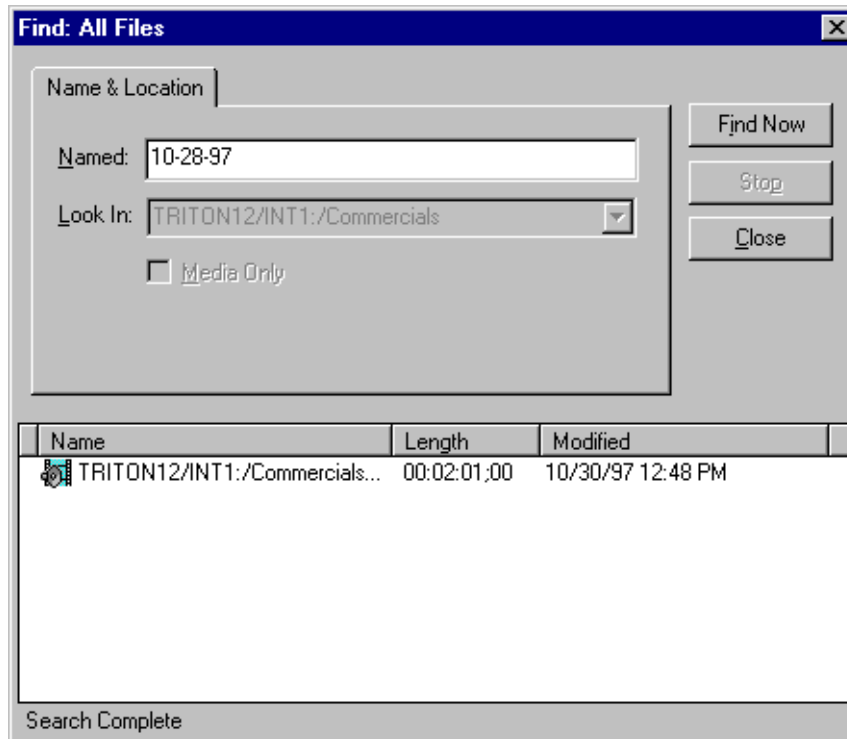

Figure 56. Find dialog box
2. Choose **Find** on the **Edit** menu or from the shortcut menu with a right-click. The Find dialog box appears (see Figure 56).
4. Click **Find Now**. Click **Stop** to abort the search. When a match is found, the result is displayed in the box at the bottom of the **Find** dialog box, as shown in Figure 56.